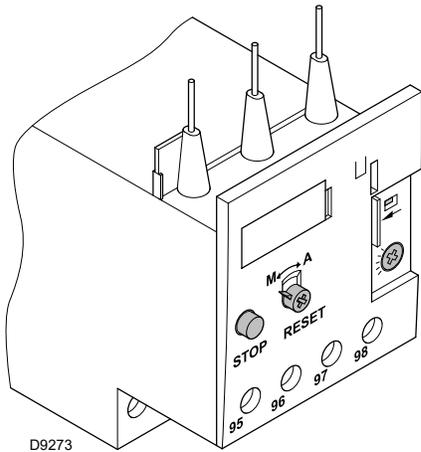

Fig. 30
The electro-mechanical thermal relay (Fig. 30) is used to avoid damage to the motor owing to a strong increase in absorption or the lack of a phase.
- To reset, in the case of an intervention of the thermal relay, press the button "RESET" (Fig. 30).
- The button "STOP" (Fig. 30) opens the NC (95-96) contact and stops the motor.